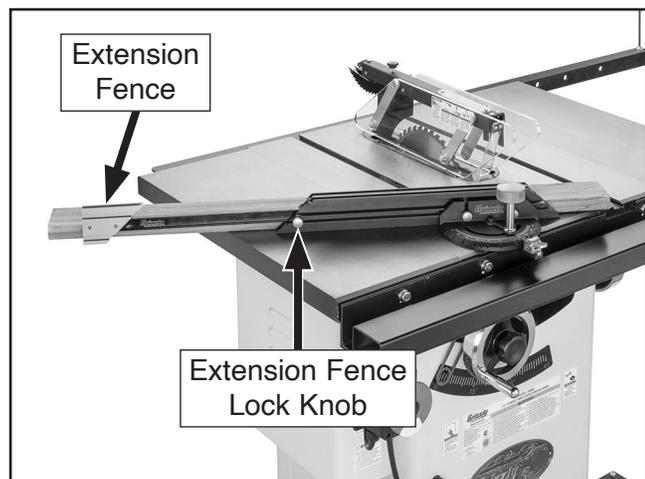

Figure 10. Extension fence extended for workpiece length.
- For workpieces more than 22" long, loosen lock knob shown in **Figure 10**, extend extension fence as required by length of workpiece, then tighten lock knob to secure.